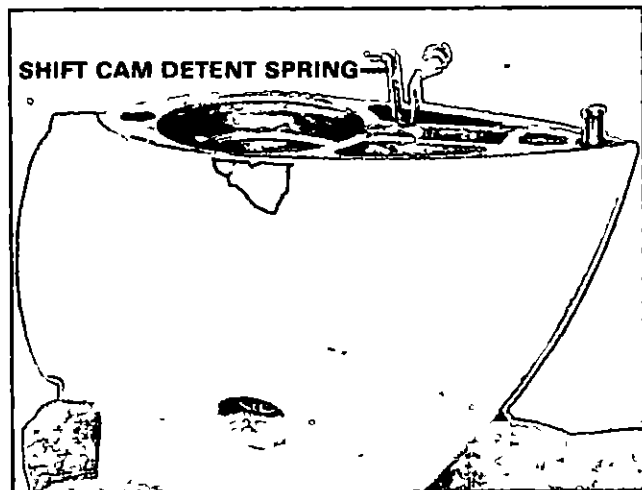

Figure 37. Installing Shift Cam Detent Spring.
- 7 Install shift cam detent spring in hole in front of bevel pinion Figure 37